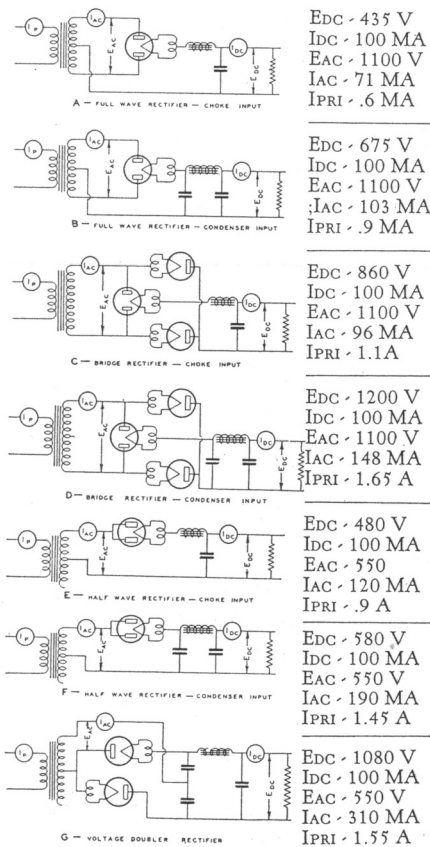

FIG. 1
Fig. 1 illustrates the result of his work. He discovered that when he changed from choke input full wave rectification (A) to condenser input (B), the AC current in his transformer secondary had changed from 71 mills to 103 mills. Also, simultaneously, the primary current of the transformer had gone up from .6 amp. to .9 amp. When he went to the bridge rectifier, (C), he found the secondary current again about 100 mills, but the primary current had risen still higher, to 1.1 amps. Finally, in the last method he had originally used for his transmitter, that is, condenser input (D), the AC current in the transformer secondary was 148 mills and the primary current 1.65 amps. Naturally, it was apparent to Joe that the transformer had burned out due to abuse rather than poor workmanship.
It is interesting to analyze the results shown in Fig. 1. These results can be applied to any standard rectifier. The ratio of AC to DC current, etc., can be definitely taken from this data. Where condenser input is used, the AC current will depend considerably on the value of the condenser and the value of DC load. The critical factor in the output available from a power transformer is the transformer's temperature rise. Insulation as normally used in the winding of power transformers will not stand up above certain limiting temperatures. The temperature rise in a transformer is almost directly proportionate to the ratio of the total wattage loss in the transformer as compared to the heat dissipating surface of the transformer. In the normal design of a transformer, this wattage is approximately equally divided between iron losses and copper losses. The iron losses are not affected very greatly by load but the copper loss is. Following the law of our old friend Ohm, we find that wattage losses in the windings of a transformer are equal to  $I_{ac}^2 \times R$ , where  $I_{ac}$  is the effective AC current in the winding and the R the resistance of the winding. The value of  $I_{ac}$  in the secondary, while directly proportionate to the DC current, is not equal to the DC current. This is apparent from Fig. 1.
Again referring to Fig. 1 and using the  $I^2R$  principle, we find that if we take the wattage loss in (A) as normal for the transformer windings, the wattage loss in (B) is approximately double in both primary and secondary; that is, the AC current has increased to 1.4 times its original value and squaring this, we get 2.
• Fig. 1—Circuit diagram of the Browning 35 with Tobe Tuner.
Fig. 1 shows the TUNER used as the heart of a superheterodyne receiver which in itself has several features. The most outstanding feature is the intermediate frequency amplifier, which is in reality a band pass filter made up of three tuned circuits so coupled together that a fiat "nosed" response curve results. The band passed by the intermediate is about 5 KC wide and consequently there is little attenuation of the higher modulating audio frequencies, which results in improving the quality of the receiver to a noticeable degree.
Two 46s connected in parallel as a Class C final amplifier were found to afford a very conservative output of about 30 watts, 600 volts being applied to the plates. The final circuit that was selected for a complete, self-contained transmitter now being marketed under the Lafayette name is shown in Fig. 1. Tube V1 is the 2B6, which consists of one very small triode and one large triode in one envelope, with the cathode of the former connected inside the tube to the control grid of the latter. The crystal is connected across the grid-cathode section of the small triode, with the cathode-plate tank, consisting of L1 and C1, between the cathode and ground. The large triode acts as a direct coupled amplifier, its plate circuit containing the tank L2-C2. Neutralizing voltage to overcome feedback effects through the grid-plate capacity of the amplifier triode is supplied by the bottom section of L1, through the small neutralizing condenser C4.